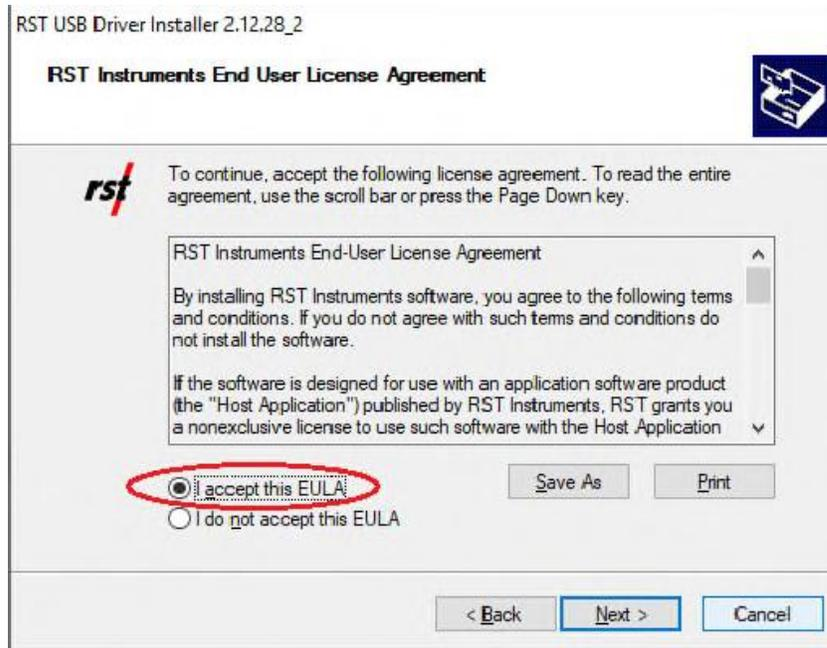

FIGURE 4-2 ACCEPTING THE END USER LICENSE AGREEMENT
4. Select your acceptance of the RST Instruments End User License Agreement and click *Next* (Figure 4-2).